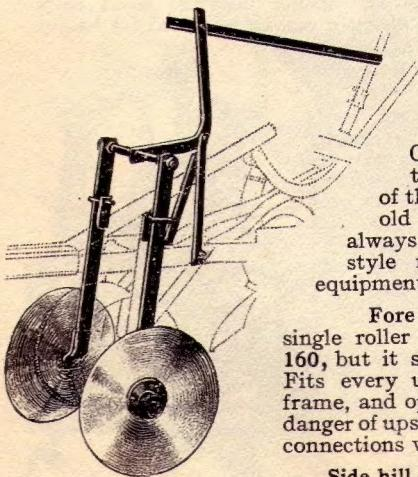

Fig. 205.
To crush the vines, and keep them in the best shape for digging, we use the large roller, 14 x 8, with concave face. Adjusts for height, and forward and back—a lever, convenient to the seat, raises the roller clear of rocks, etc. For heavy vines, see Fig. 205, page 8.
**D**isc attachment, Fig. 205. For use in digging early white potatoes, also in the late crop, overrun with grass and weeds. Good where vines are extremely heavy growth—the concave discs cut and throw aside a large part of the vines and part of the soil. They are for use on old Nos. 120 and 125 and new No. 160, and should always be used when digging sweet potatoes with this style machine. Cannot be used with two-wheel equipment.